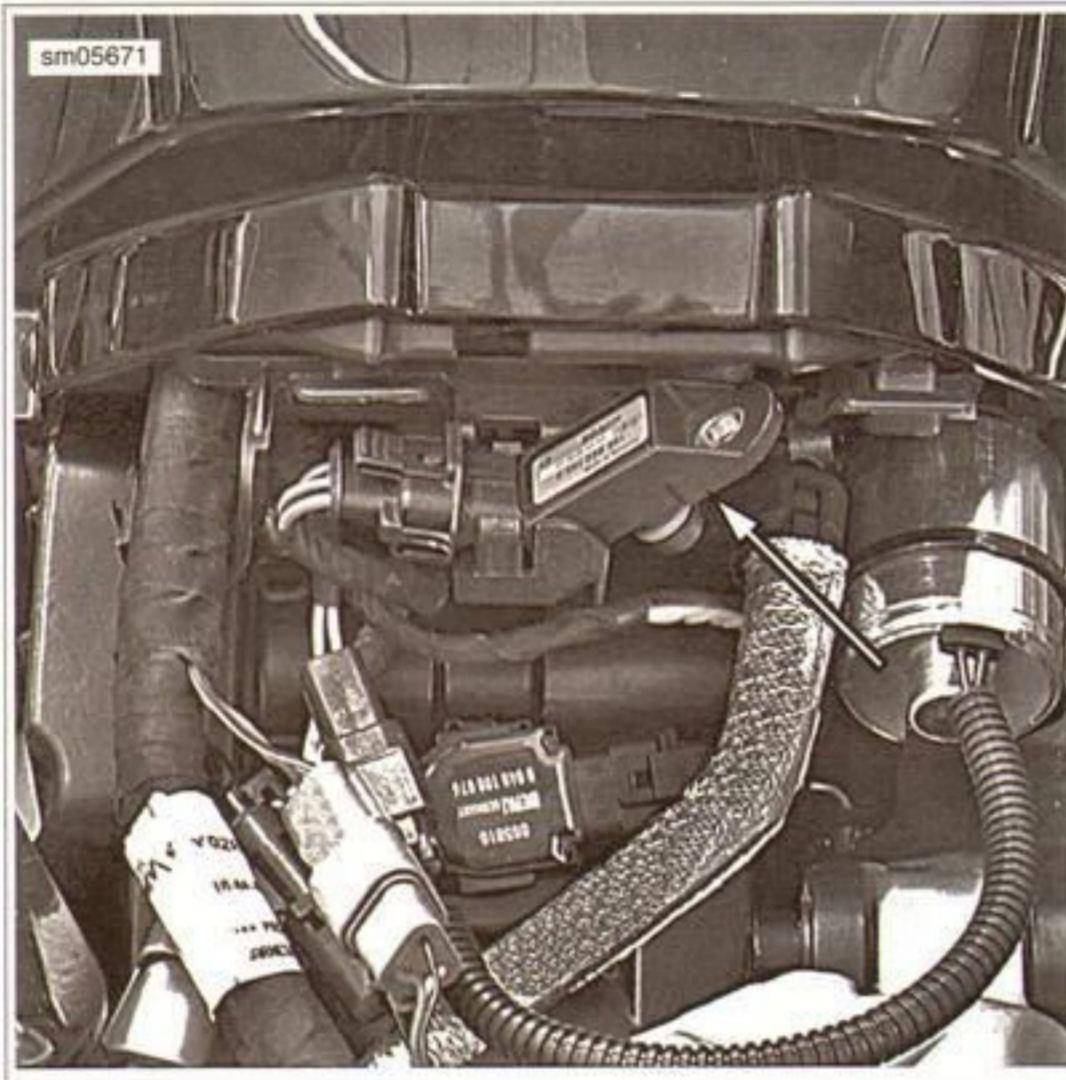

Figure 4-11. Barometric Pressure (BARO) Sensor
2. See Figure 4-11. Remove the BARO from the clip on the air cleaner assembly baseplate.